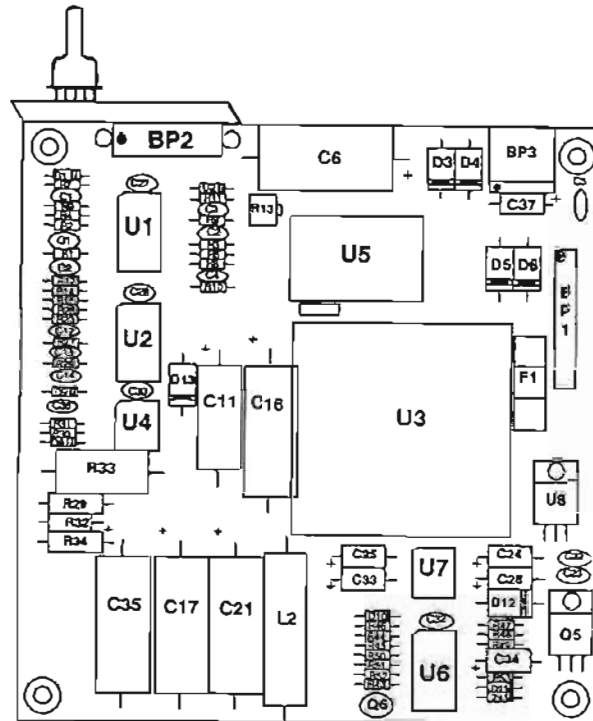

Figure 4-7. Analog/power supply PCB (model 750).
(3) *Analog/power supply PCB (fig 4-7).*